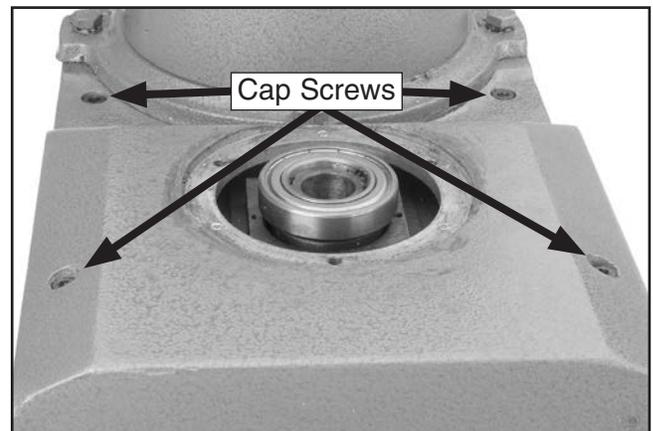

Figure 80. Upper transmission case cap screws.
- Remove the four cap screws shown in **Figure 80**, then remove the cap screw from the underside end of the transmission case.